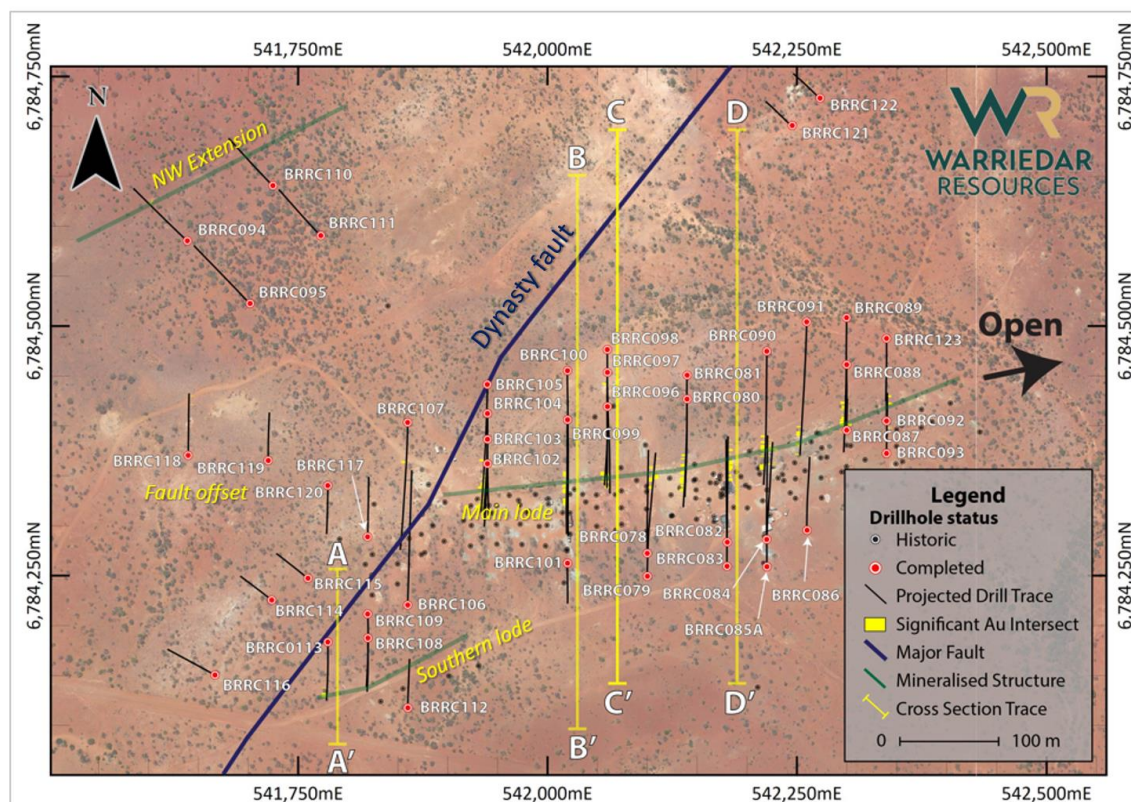

Figure 2. Plan view highlighting drill locations relative to mineralised structures (Green).
- **Fault offset:** drilling has confirmed the presence of gold mineralisation on the western side of the Dynasty fault. See Figure 2 and Table 2 (BRRC118).
The majority of the 2023 Rothschild drill holes targeted the sub-vertical east-northeast striking structure that hosts the Main Lode (refer Figure 2). Drilling has now defined the Main Lode over a strike length of 500m and has extended the mineralisation to a depth of ~230m below the surface (which represents an additional 150m depth extent from previous delineation). The mineralisation remains open at depth and to the east (see Figure 3, Long Section).
A prominent north-east striking fault, the Dynasty fault, cuts through the structure hosting the Main Lode, which has not been identified on the western side of the fault to date. See Figure 2 for Dynasty fault location (dark blue line).
Figure 3: Long section (east-west) through the main lode. The section generally follows the trace of the green mineralized structure shown in Figure 2, defining the Main Lode.
Figure 4: Cross section B-B' through the western side of the main lode, highlighting the width of the mineralized envelope widening at depth. See Figure 2 for location.
Figure 5: Cross section C-C' through the central western side of the main lode demonstrating the depth extension to 230m compared to previous JORC resource (while still open). See Figure 2 for location.
Figure 6: Cross section D-D' through the central part of the main lode. At this position in the lode, the width mineralized envelope is > 40m wide. Historic intercepts are strong including 26m @ 2.82 g/t. See Figure 2 for location.
Four holes were drilled to target the NW extension (refer Figure 2: BRR0094, BRR0095, BRR0110, BRR0111). Low-level significant intercepts were returned in the two most northern holes (refer Table 1 and Figure 8). These holes help to deliver proof of concept and provide several key areas for targeted follow-up drilling.